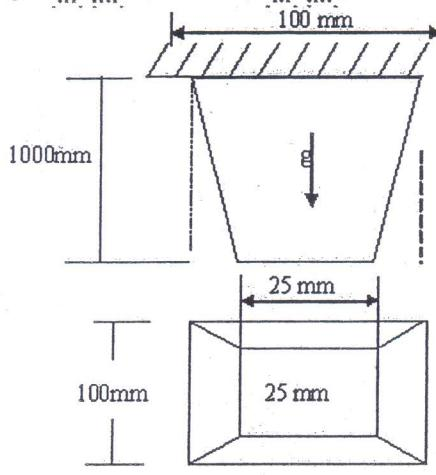

Figure.3
3. Determine the deflection at the free end under its own weight using three elements shown in figure.3,  $E = 200 \text{ GPa}$  and  $\rho = 7800 \text{ kg/m}^3$ . [15]